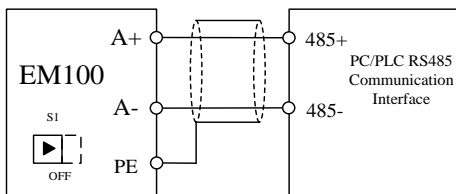

Figure 3-19 RS485 and Single Inverter Connection
1. Refer to the Figure 3-19 for connecting single inverter to PC/PLC: